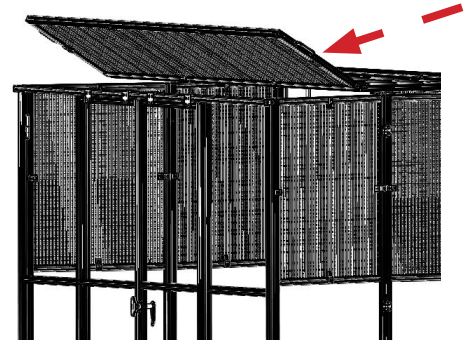

FIGURE 2.4 - Top Panel
STEP 5: Flip the top panel over to meet the front panel top rail. See FIGURE 2.4